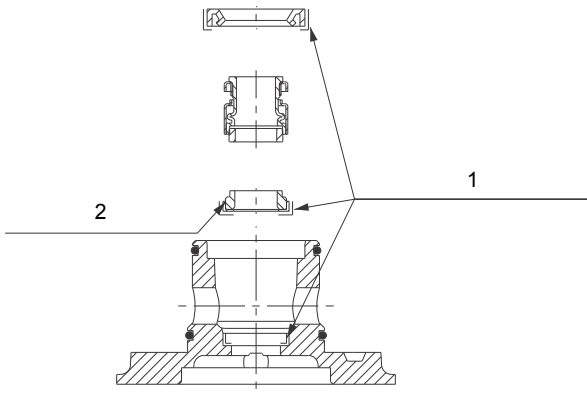

Fig. 13 Shaft seal assembly, 0.9 - 1.5 kW
1. Check and clean the oil chamber (155).
2. Lubricate the groove for the O-rings (107).
3. Fit and lubricate the two O-rings (107) of the shaft seal.
4. Make sure that the O-ring (102) is fitted inside the bush (103).
6. Fit the bush (103) in the seal ring (104) of shaft seal (105).
7. Fit a new shaft seal (105) using the mounting bush included in the shaft seal kit. See fig. 13.